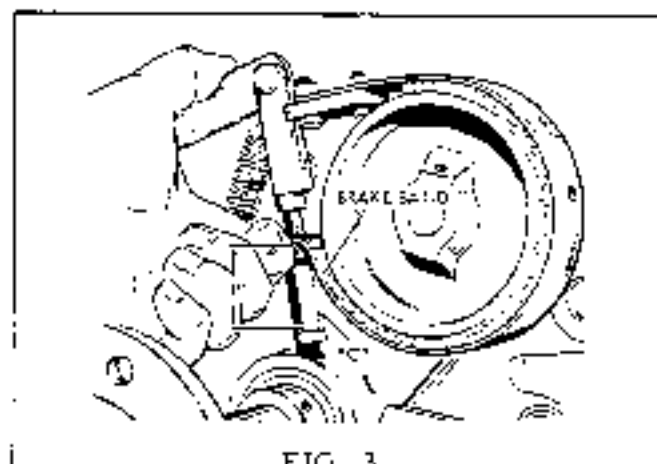

FIG. 3
2. Pull brake band up by hand so that it is tight around brake drum. Adjust hex screw (C) to have a clearance of 1" between brake band and screw as shown in Fig. 3.